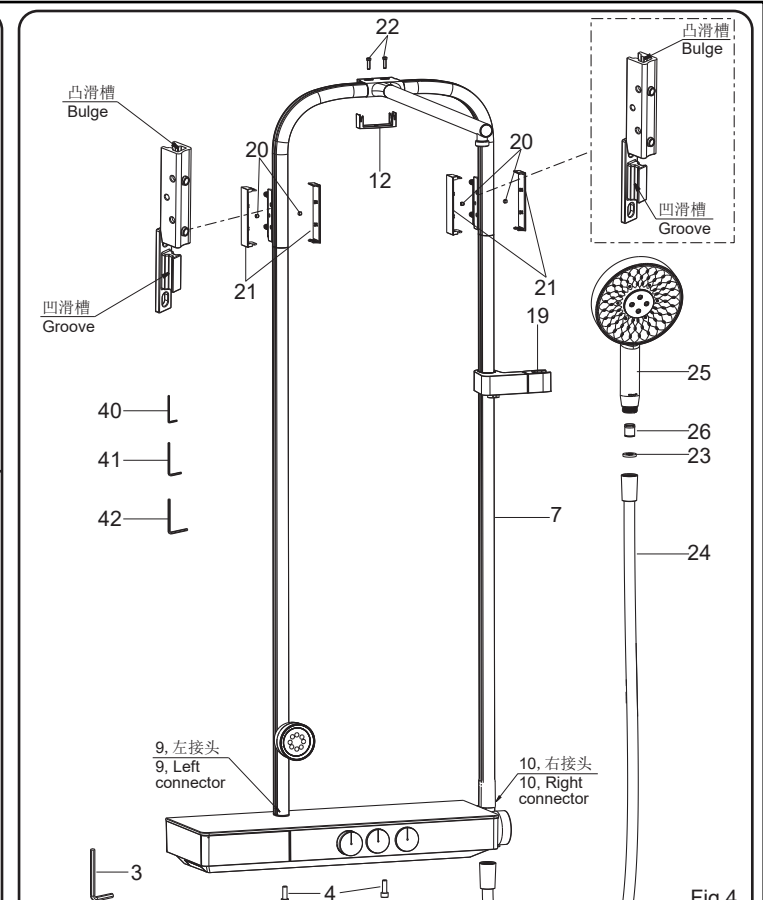

Fig.4
1. Slide the shower bracket(19) onto the right shower column(7).
2. As Fig.4 shown, install the whole shower column onto left and right connector(9, 10) of the body, and slide the bulges of the left and right joints of the shower column into the grooves of the left and right wall bases.
3. For left and right wall bases, tighten the left and right screws(20) with 2.5mm hex wrench(41), and then install the left and right caps(21).
4. For top wall base, tighten the screws(22) with 3mm hex wrench(42), and then install the cap(12).
5. Tighten two screws(4) with 5mm hex wrench(3).